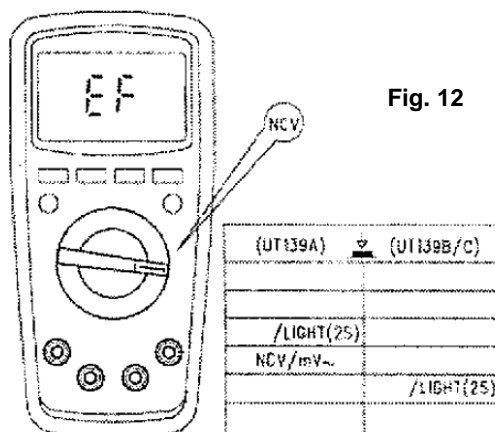

Fig. 12
9. DETECTARE FARA CONTACT A TENSIUNII AC (fig.12)